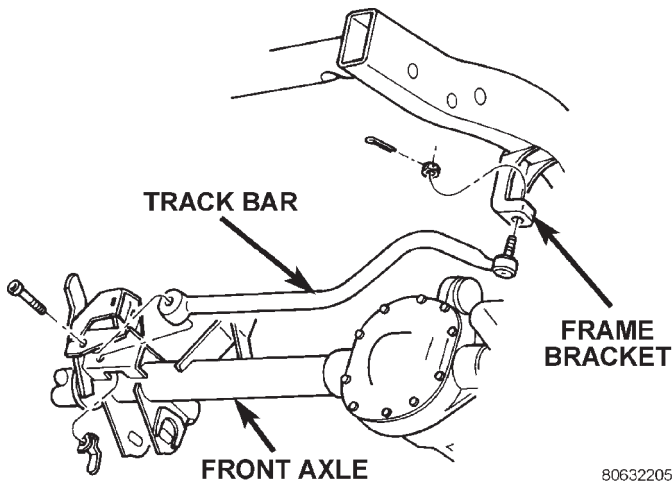

Fig. 7 Track Bar
(1) Raise and support the vehicle.
(2) Remove the cotter pin and nut from the ball stud end at the frame rail bracket (Fig. 7).
(3) Use a universal puller tool to separate the track bar ball stud from the frame rail bracket.
(4) Remove the bolt and flag nut from the axle bracket (Fig. 7). Remove the track bar.